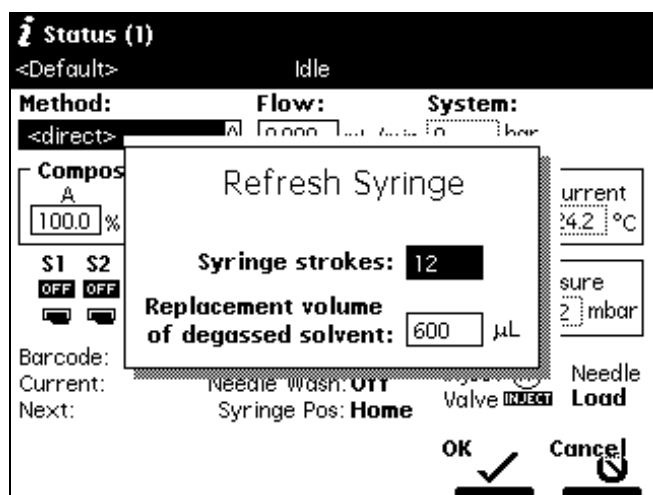

Figure 3-21 Refresh Syringe Dialog Box
3. Select the **Refresh Syringe** option, then press **Enter**. The Refresh Syringe dialog box appears (Figure 3-21).